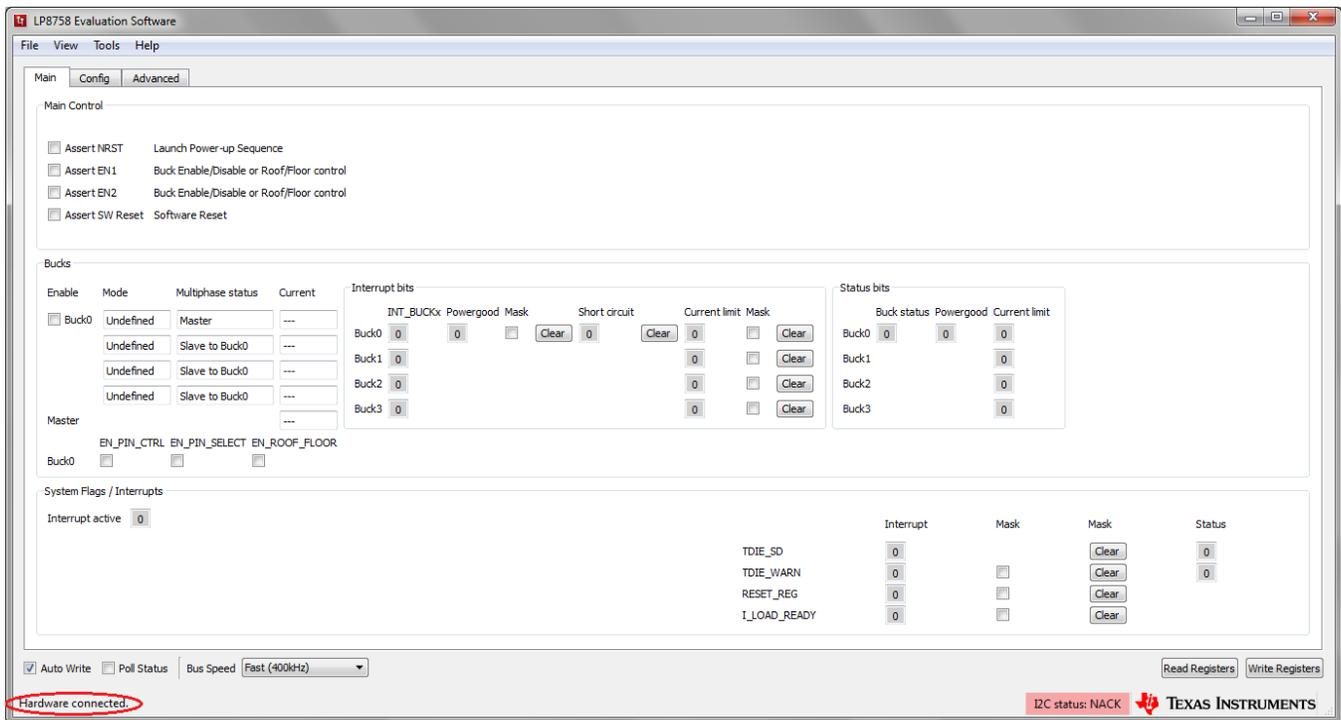

Figure 2. Evaluation Software Graphical User Interface (GUI) When Board Connected
2. On the Evaluation SW window bottom right corner you should see text "Hardware connected". Refer to Figure 2.